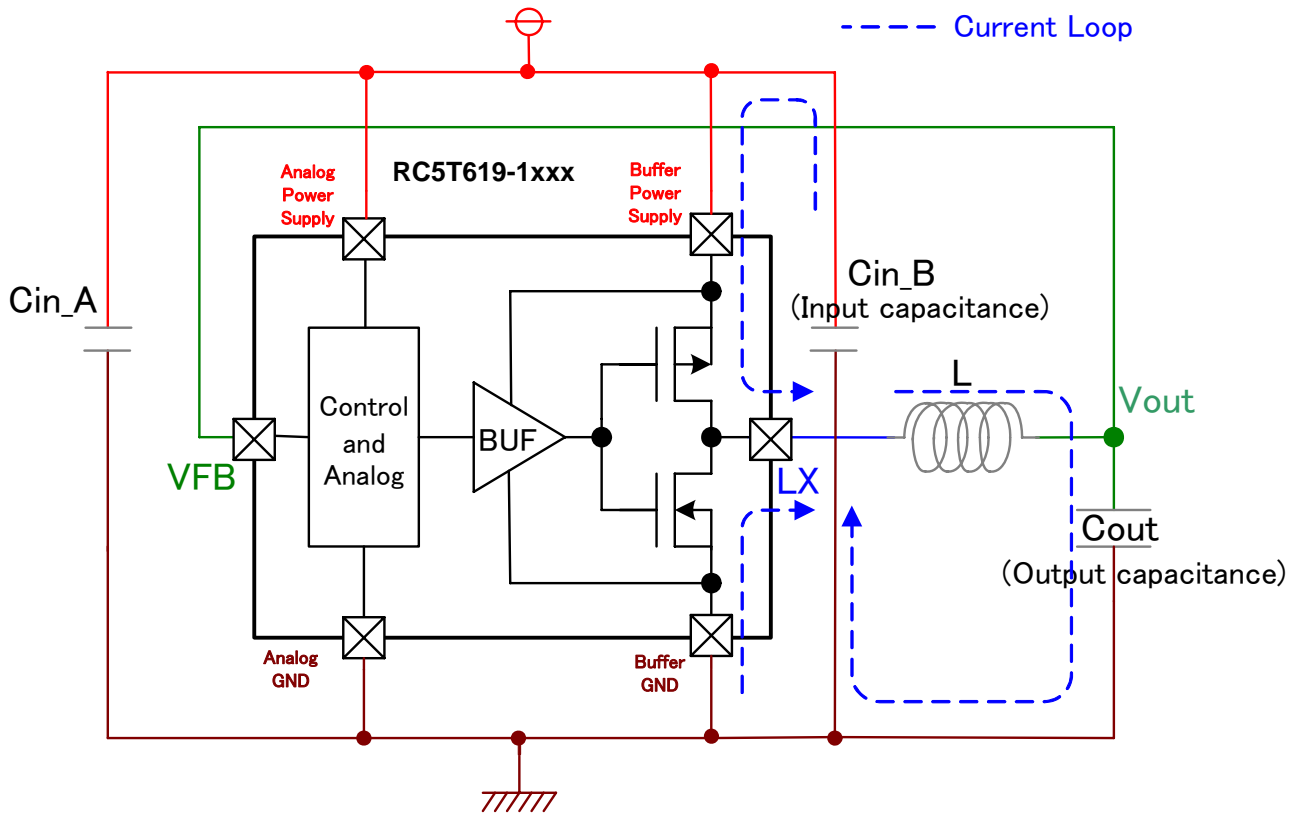
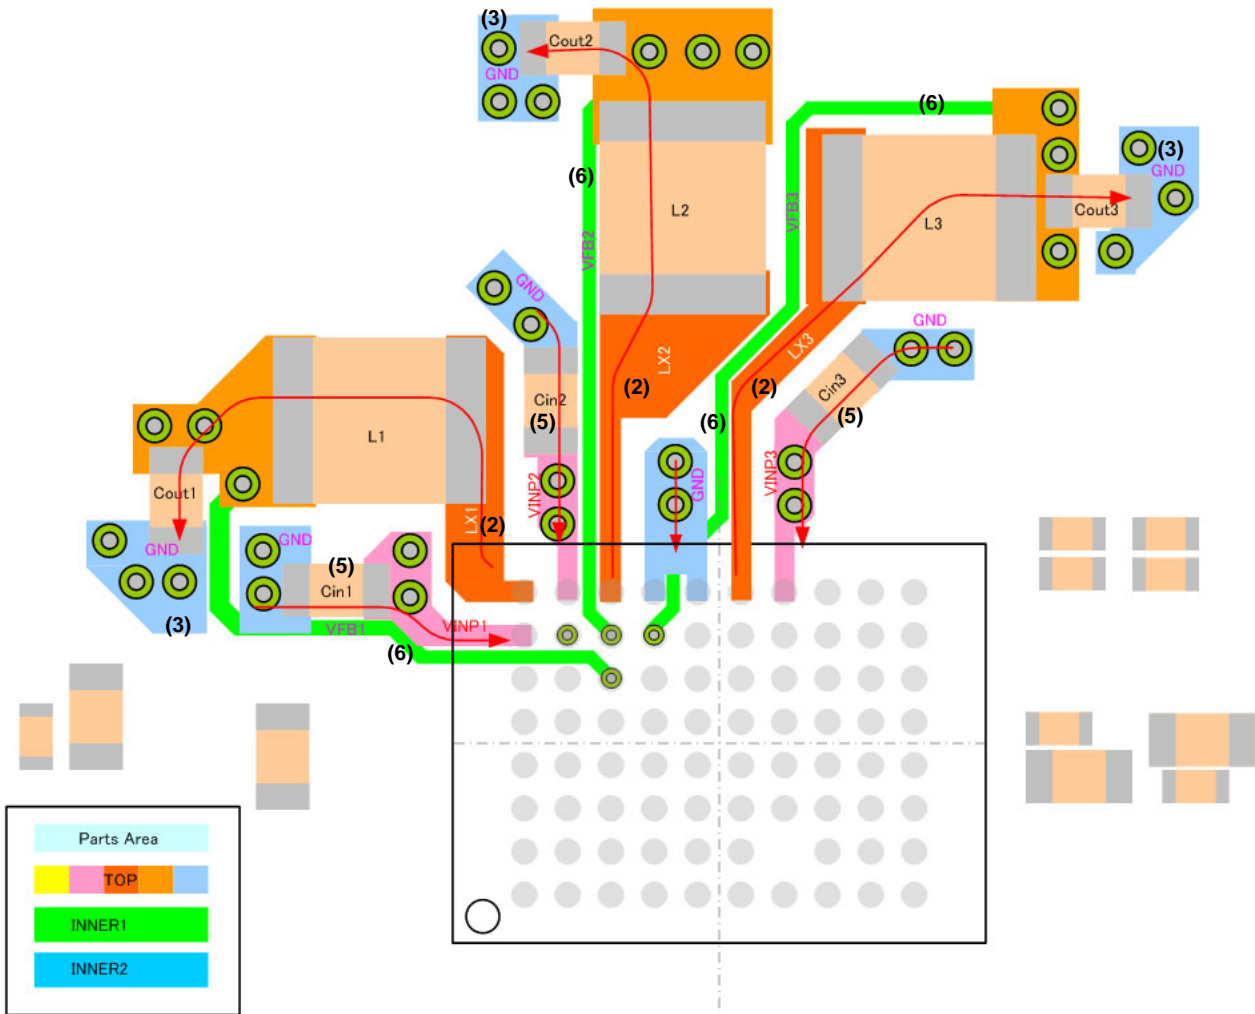

Fig. 1-1: Simplified Schematic for DCDC1, DCDC2, DCDC3, DCDC4 and DCDC5
Fig. 1-2: Example of DCDC Block Board Pattern (Top Layer)
- (1) Place the parts to minimize the switching current loop (Figure 1-1: blue line, Figure 1-2: red line).
- (2) Route the LX line as short and wide as possible between RC5T619-1xxx and an inductor, and prohibit adding other redundant lines on it.
- (3) Connect the ground line of “Cout” directly to the internal ground plane with multiple vias, in order to reduce impedance as small as possible. (Target: 50mΩ or less)
- (4) Pull out the output of DCDC from near not “L” but “Cout”.
- (5) Place “Cin” as close as possible to RC5T619-1xxx.